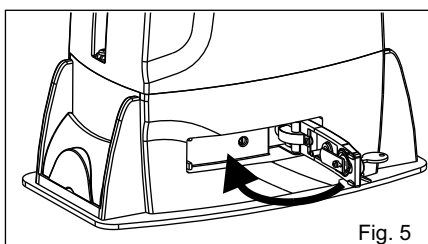

Fig. 5
3) Disconnect the power supply (Fig. 1), release the motor (Fig. 2) and put the leaves manually next to the stop in closing (Fig. 3-4). Reset the mechanical lock (Fig. 5)